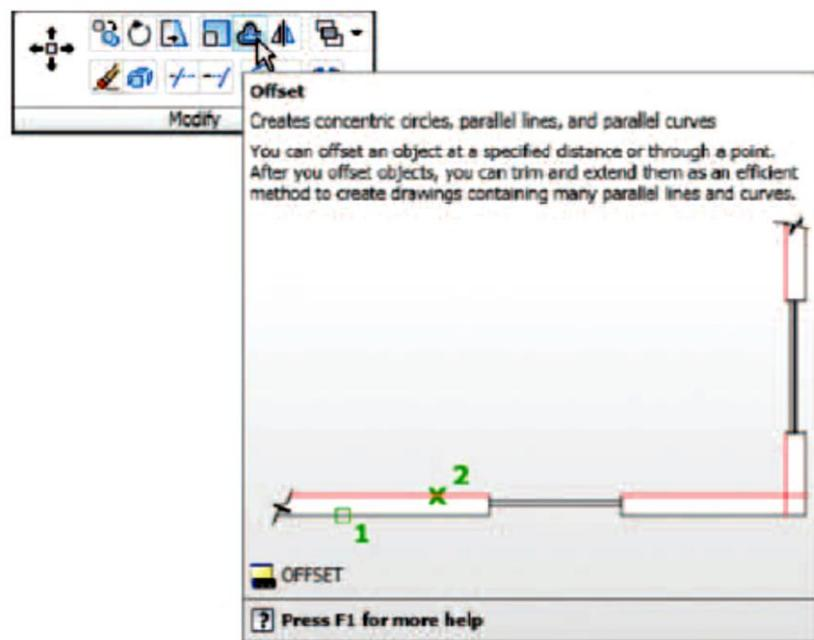

Fig.9.6
1. Using the **Line** and **Arc** tools, construct the outline given in Fig. 9.6.